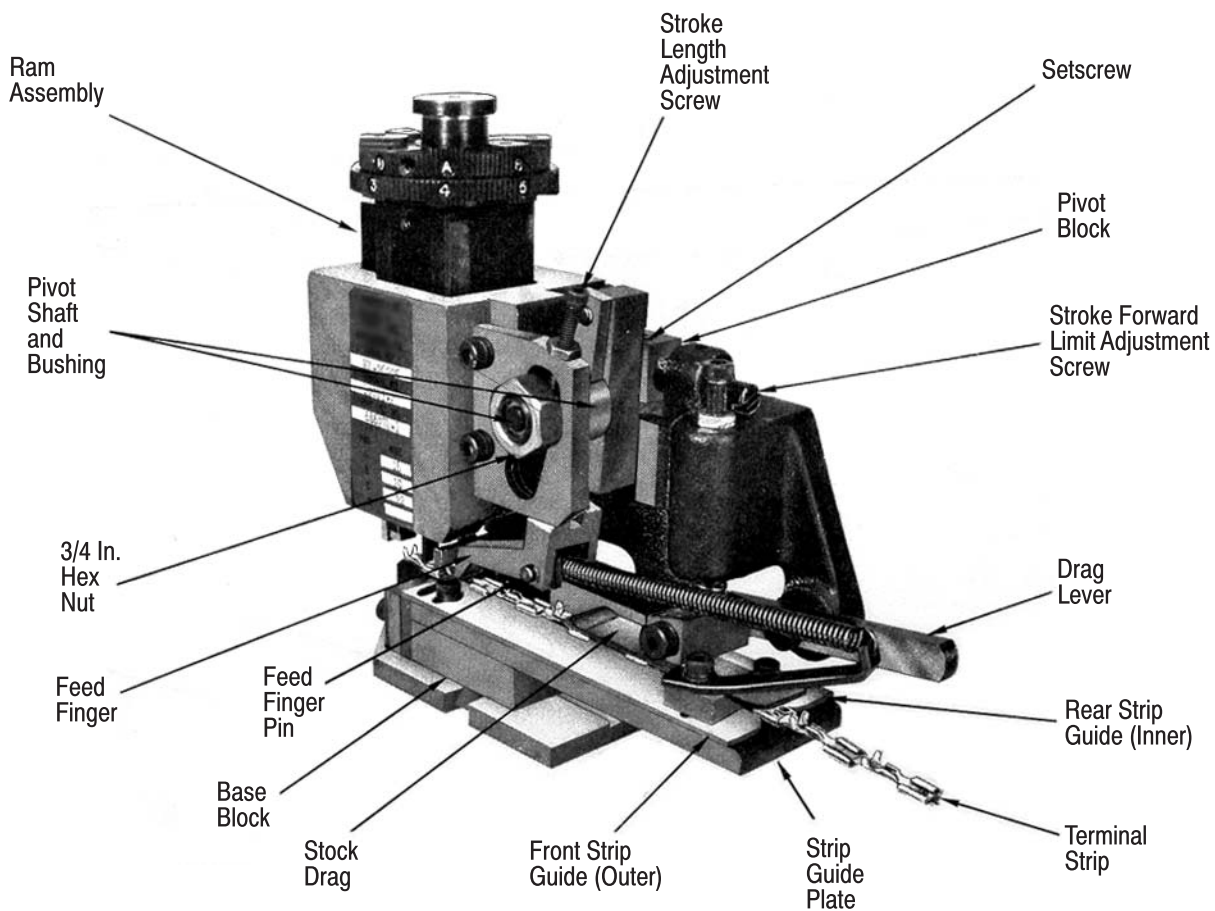

Figure 2
6. Loosen slightly the 3/4-in. hex nut, on side of applicator, to permit movement of pivot shaft in slot (see Figure 2).